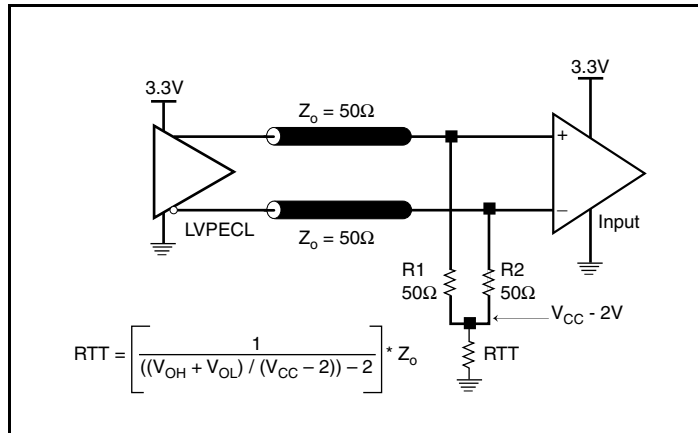

Figure 2A. 3.3V LVPECL Output Termination
*Figures 2A and 2B* show two different layouts which are recommended only as guidelines. Other suitable clock layouts may exist and it would be recommended that the board designers simulate to guarantee compatibility across all printed circuit and clock component process variations.